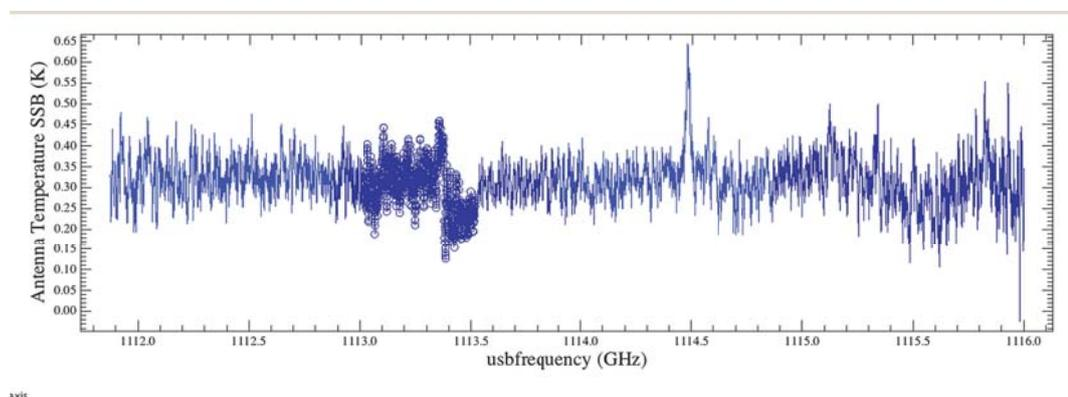

Figure 11.6. Results from flagging the selected region
- With a right-click, select *Point selection / flag*. A drop-down menu with an extended list of masks will appear. At the bottom of the list, you will also find the choice *manual*, which allows you to select a flag value not already present in the menu. If *manual* is selected, a small window requesting a flag numerical value will appear. The numerical value of the flag should be calculated as  $\text{value}=2^n$ , where  $n$  is the bit value. For example, for bit 7 you would enter 128 and for bit 29 the value is 536870912. Once the value is set, click *OK* to continue. Note that if you selected data points in a spectrum with more than one row (typical for Level 1 HIFI data), then you will be prompted for a flag value for each of N rows in the spectra (see Figure 11.6).